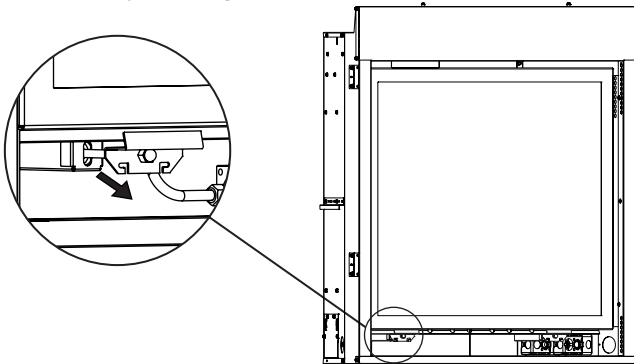

Figure 2
2. Pull out to release both latches at bottom of firebox assembly. See Figure 2.
20. Reinstall the glass frame removed in steps 2 and 3. **See Figures 2 & 3.**